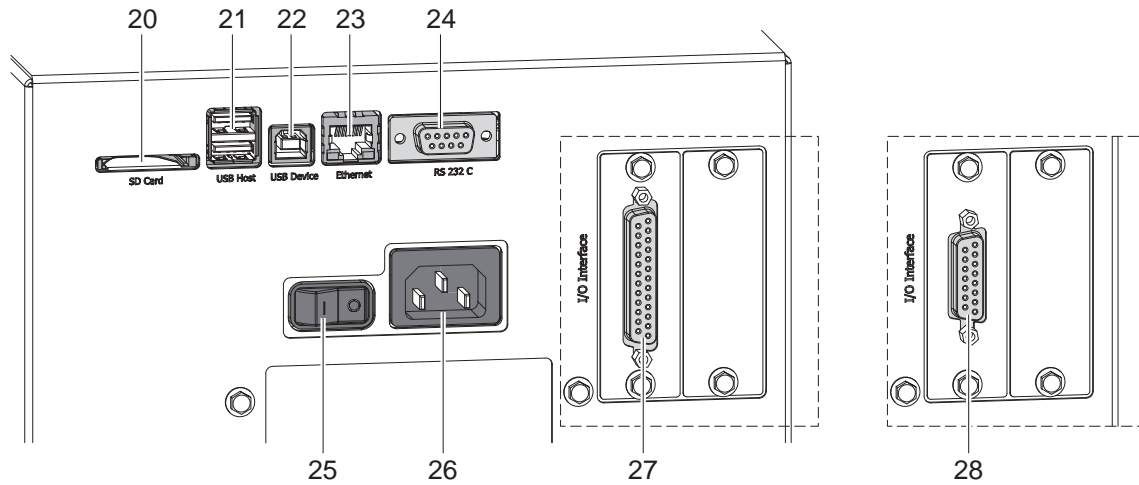

Fig. 4 Connections
The standard available interfaces and connectors are shown in Fig. 4.
2. Plug the power cable into the power connection socket (26 / Fig. 4).
- ▶ Switch the print module on at the power switch (25 / Fig. 4).